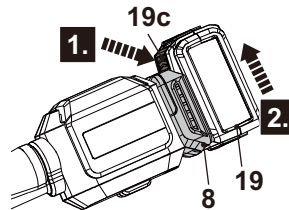

Fig. 11
2. Press the release button (19c) and remove the battery pack (19) from the battery docking port (8) (Fig. 11).